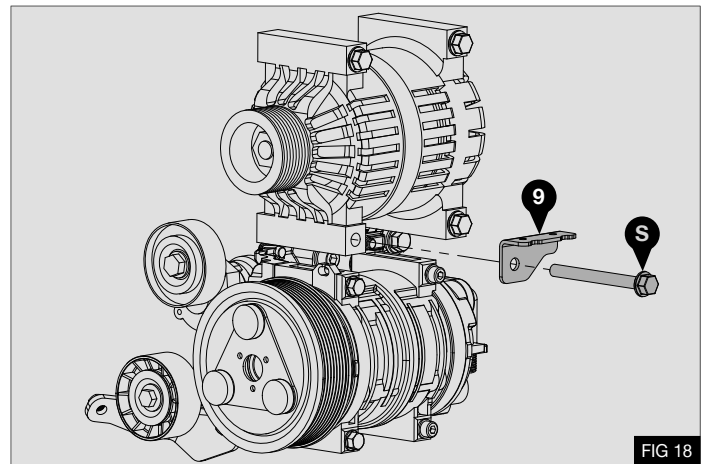

FIG 18
- Fit the supplied pipe support bracket (9) to the alternator using the original bolt (S) - Fig 18